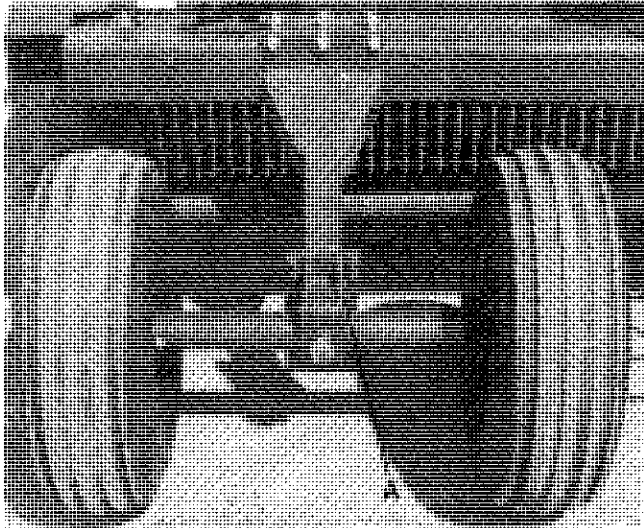

FIGURE 13 - OSCILLATING CARRIER WHEEL
To level machine, move spindle support bracket (A) (see figure 13) up or down on struts.